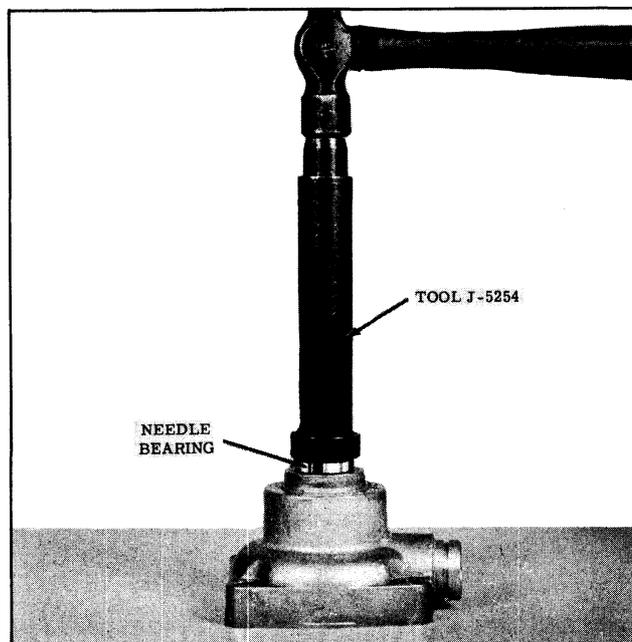

Fig. 5-45 Installing Bearing
- e. Place a new needle bearing over the large end of Tool J-5254 with the markings against the shoulder of the tool. (See Fig. 5-45)